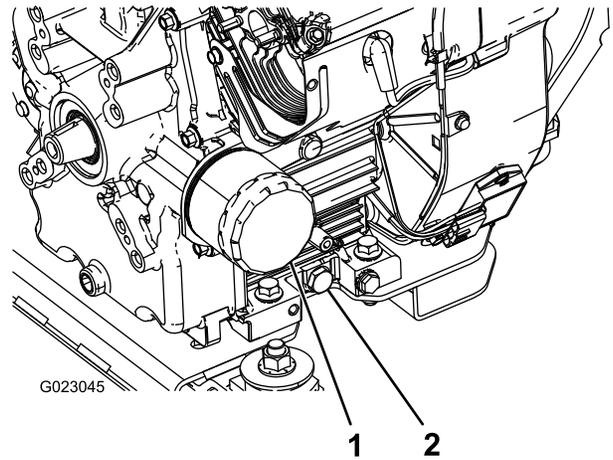

Figure 44
5. Remove the drain plug (Figure 44).
2. Remove the oil filter (Figure 44).
tighten the filter an additional 1/2 turn (Figure 44).